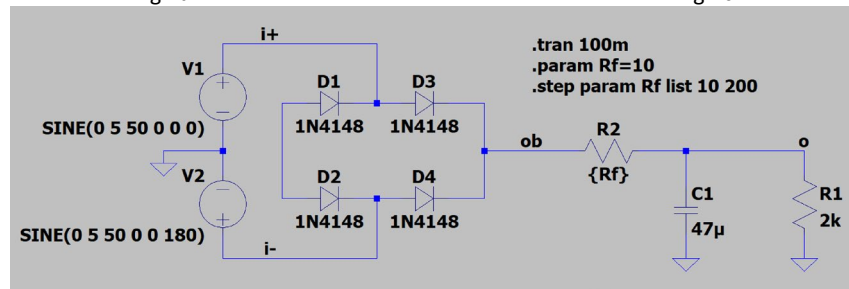

Fig.1b
- For Fig.1b plot the outputs from the parametric simulation and make your observations
Note1: Fig.1b is a parametric simulation vs Rf
- For Fig.1b plot the positive input and the output for the  $R_f=10\Omega$  case applying the required offset to clearly show the ripple; report the ripple value; compare with the simulation and make your observations